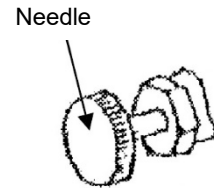
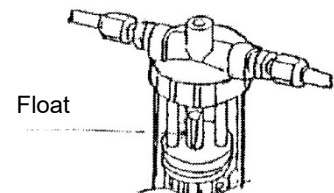

Figure 2
Figure 3
- (3) Turn the needle valve clockwise until it stops, and then turn it counterclockwise by two turns. (Figure 2)
- (4) Open the supply side of compressed air.
- (5) Turn the compact regulator adjusting knob slowly to the HIGH side (clockwise) until the float of the MC filter with flow monitor makes contact with the upper stopper and stops, and then move the lock ring to the far side to lock the adjusting knob.
- (6) Slowly turn the needle valve clockwise until the float of the MC filter with flow monitor makes contact with the upper stopper and moves up and down by one to two millimeters. (Figure 3)